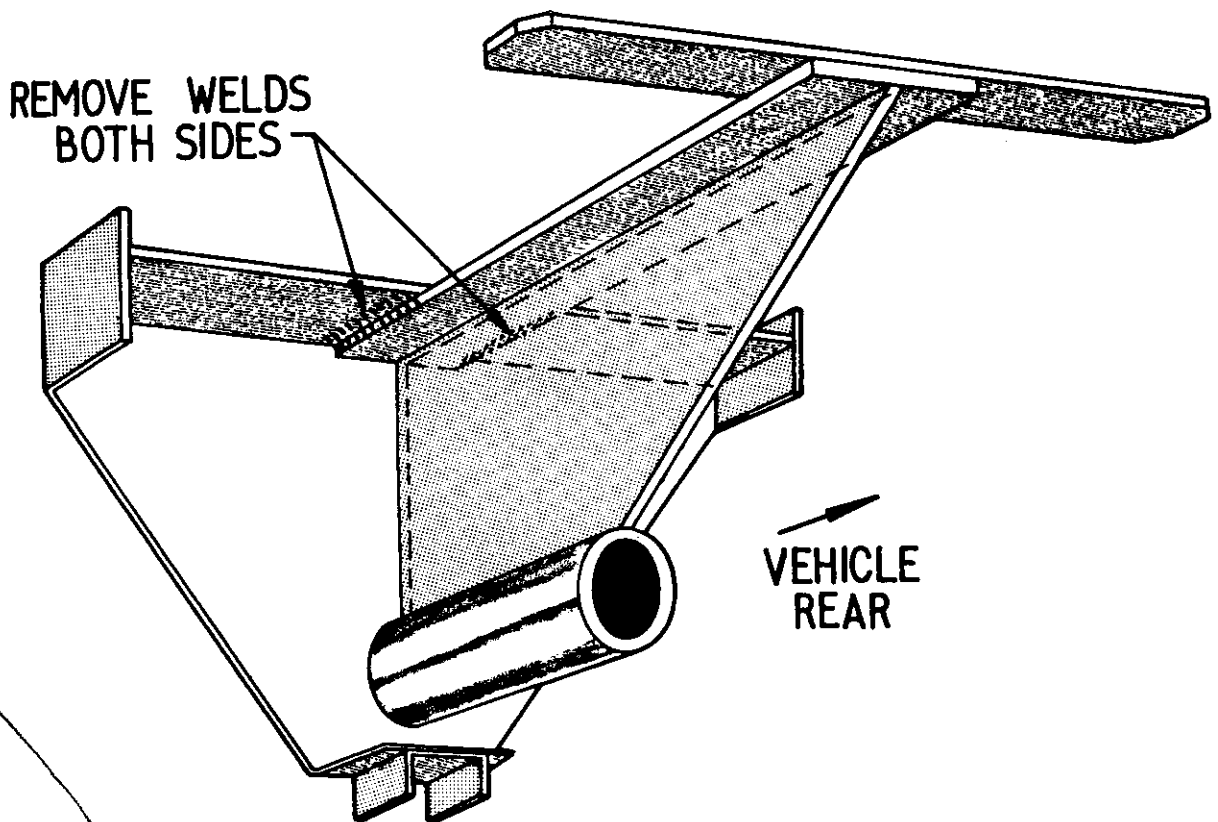

FIG 1 - TOWING FRAME
6. Remove the welds indicated in Fig 1 by chiselling.